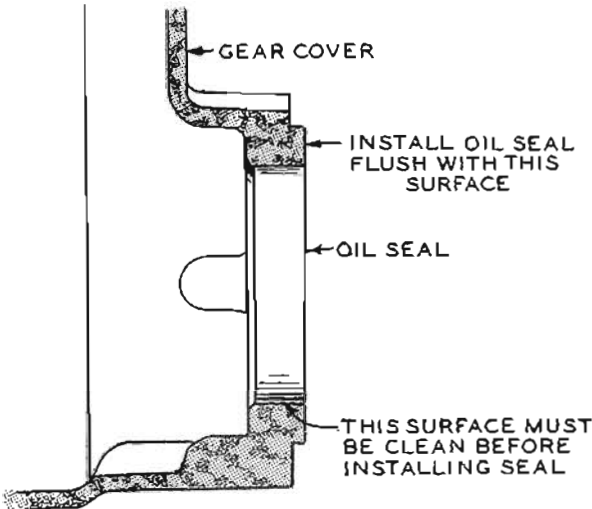

Figure A-38. Gear Cover Oil Seal
(1) Governor Shaft. The governor shaft is supported by 2 sets of needle bearings. To remove the shaft from the gear cover, remove the governor yoke and pull the shaft from the gear cover. If the shaft binds during operation, clean the bearings; if the shaft is loose, replace the bearings. To remove the larger bearing, drive both bearing and oil seal out from the outside of the gear cover. Remove the smaller bearing with an easy-out or similar tool. Press new bearings and an oil seal into place.
(2) Gear Cover Oil Seal (fig. A-38). Replace the oil seal if damaged or worn. Drive the old seal out from inside the gear cover. Lay the cover on a board so the seal boss is supported. Using an oil seal driver, insert the new seal from the inside with the rubber lip toward the outside of the gear cover (open side of seal inward) and drive it flush with the outside surface. During gear cover installation, reverse the driver to protect the oil seal.